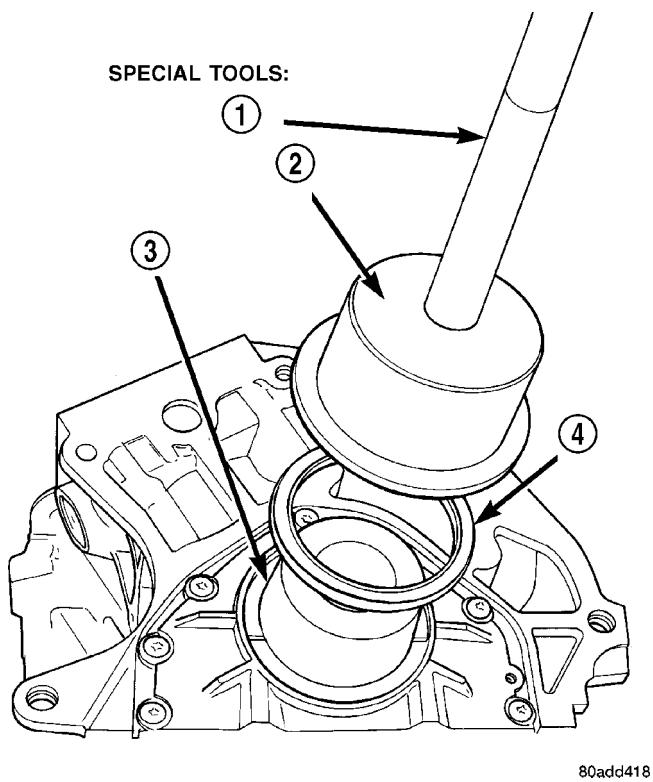

Fig. 76 Crankshaft Rear Seal - Installation
(1) Place Special Tool 6926-1 Guide on crankshaft (Fig. 76). This is a pilot tool with a magnetic base.
(2) Position seal over pilot tool. Assure that lip of seal is facing towards the crankshaft during installation. The pilot tool remains on crankshaft during seal installation.
(3) Using Special Tool 6926-2 Installer, and C-4171 Handle (Fig. 76), drive seal into the retainer housing until seal is flush with housing surface.
(4) Install drive plate and transaxle. (Refer to 21 - TRANSMISSION/TRANSAXLE/AUTOMATIC - 42LE - INSTALLATION)